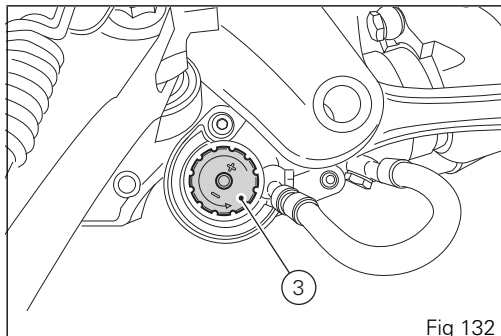

Fig 132
The knob (3, Fig 132), located on the expansion reservoir of the shock absorber, adjusts the damping during the compression phase. Turn the adjusters (1) with a screwdriver or the knobs (2) and (3) clockwise to obtain a harder setting or increase preload. Turn them counter-clockwise to obtain the opposite setting.